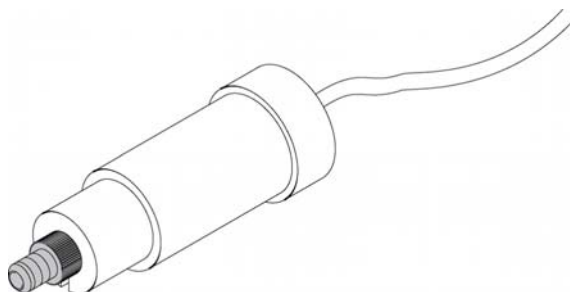

Figure 7 Mounting Tool
- 5 Connect the solvent tubes from the bottle head assemblies to the inlet connectors A through D (typically the upper connection of the channel) of the micro vacuum degasser. Use the mounting tool shown in Figure 7 on page 22 to fix the tube screw. Fix the tubes in the clips of the micro vacuum degasser.
- 6 Connect the outlet tubes to the output ports (typically under connection of the channel) of the micro vacuum degasser. Use the mounting tool shown in Figure 7 on page 22 to fix the tube screw.